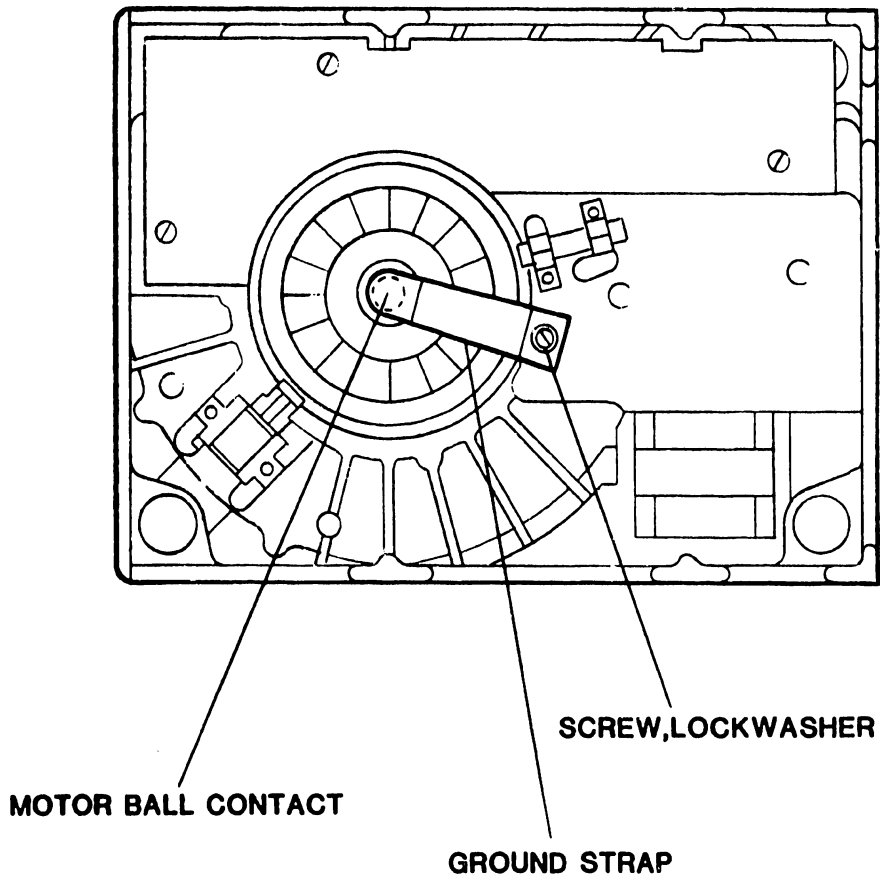

Figure 6-6. HDA Ground Strap Removal and Replacement
6.3.6 HDA Ground Strap (Figure 6-6)